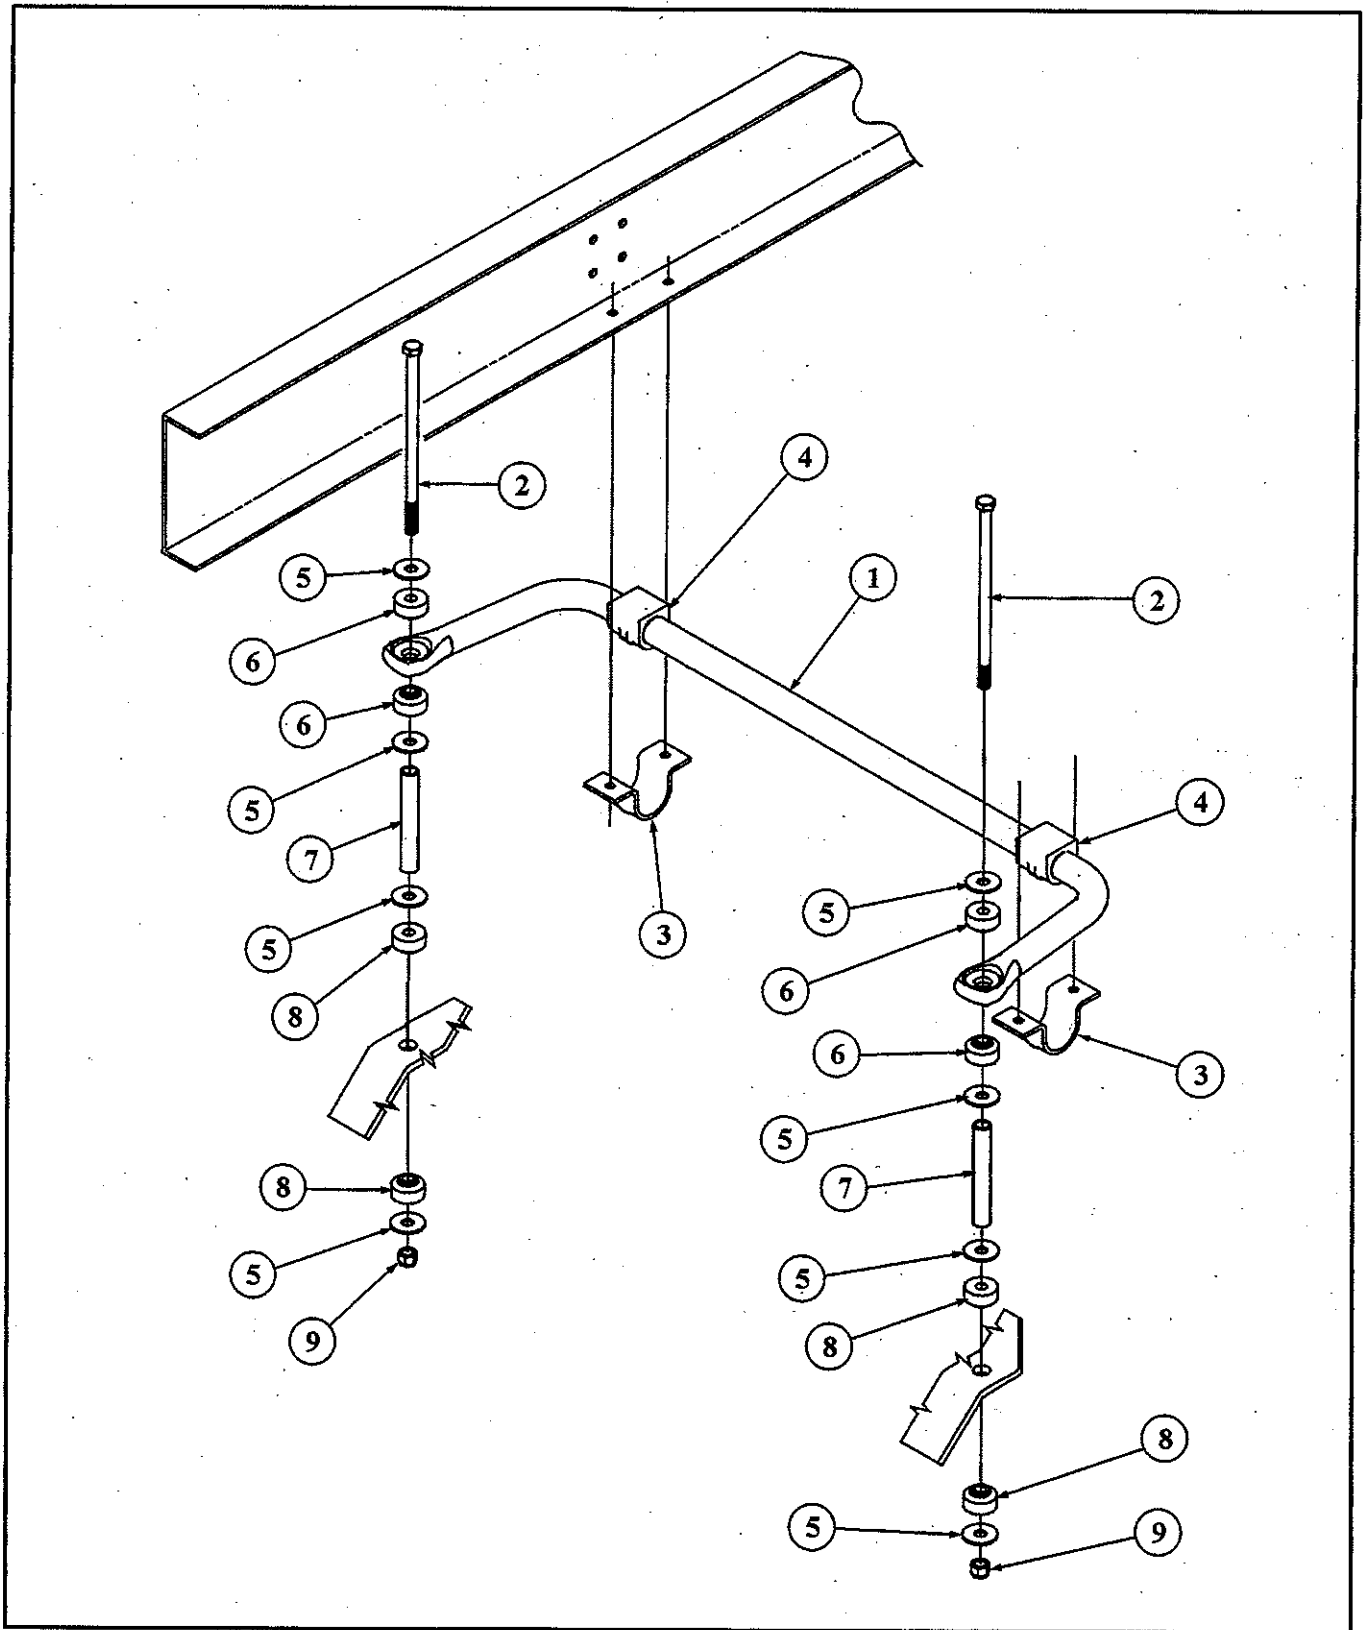

Figure 6—Front Suspension Stabilizer Bar
1. Remove the nuts (9) and washer (5) from the bolt (2). (See Figure 6—Front Suspension Stabilizer Bar.)
2. Remove the flat bushing (8).
3. Pull the bolt (2) to remove stabilizer bar from the end link.
4. Remove the flat bushing (8).
5. Remove the flat washer (5).
6. Remove the flat bushing (8).
7. Remove the flat washer (5).
8. Remove the sleeve (7).
10. Pull the bolt (2) to remove the stabilizer bar from end link.